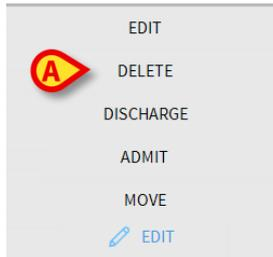

Fig 119
A menu containing various options opens (Fig 119).
- Click the **Delete** button (Fig 119 **A**)
- Click the **Edit** button (Fig 119 A)